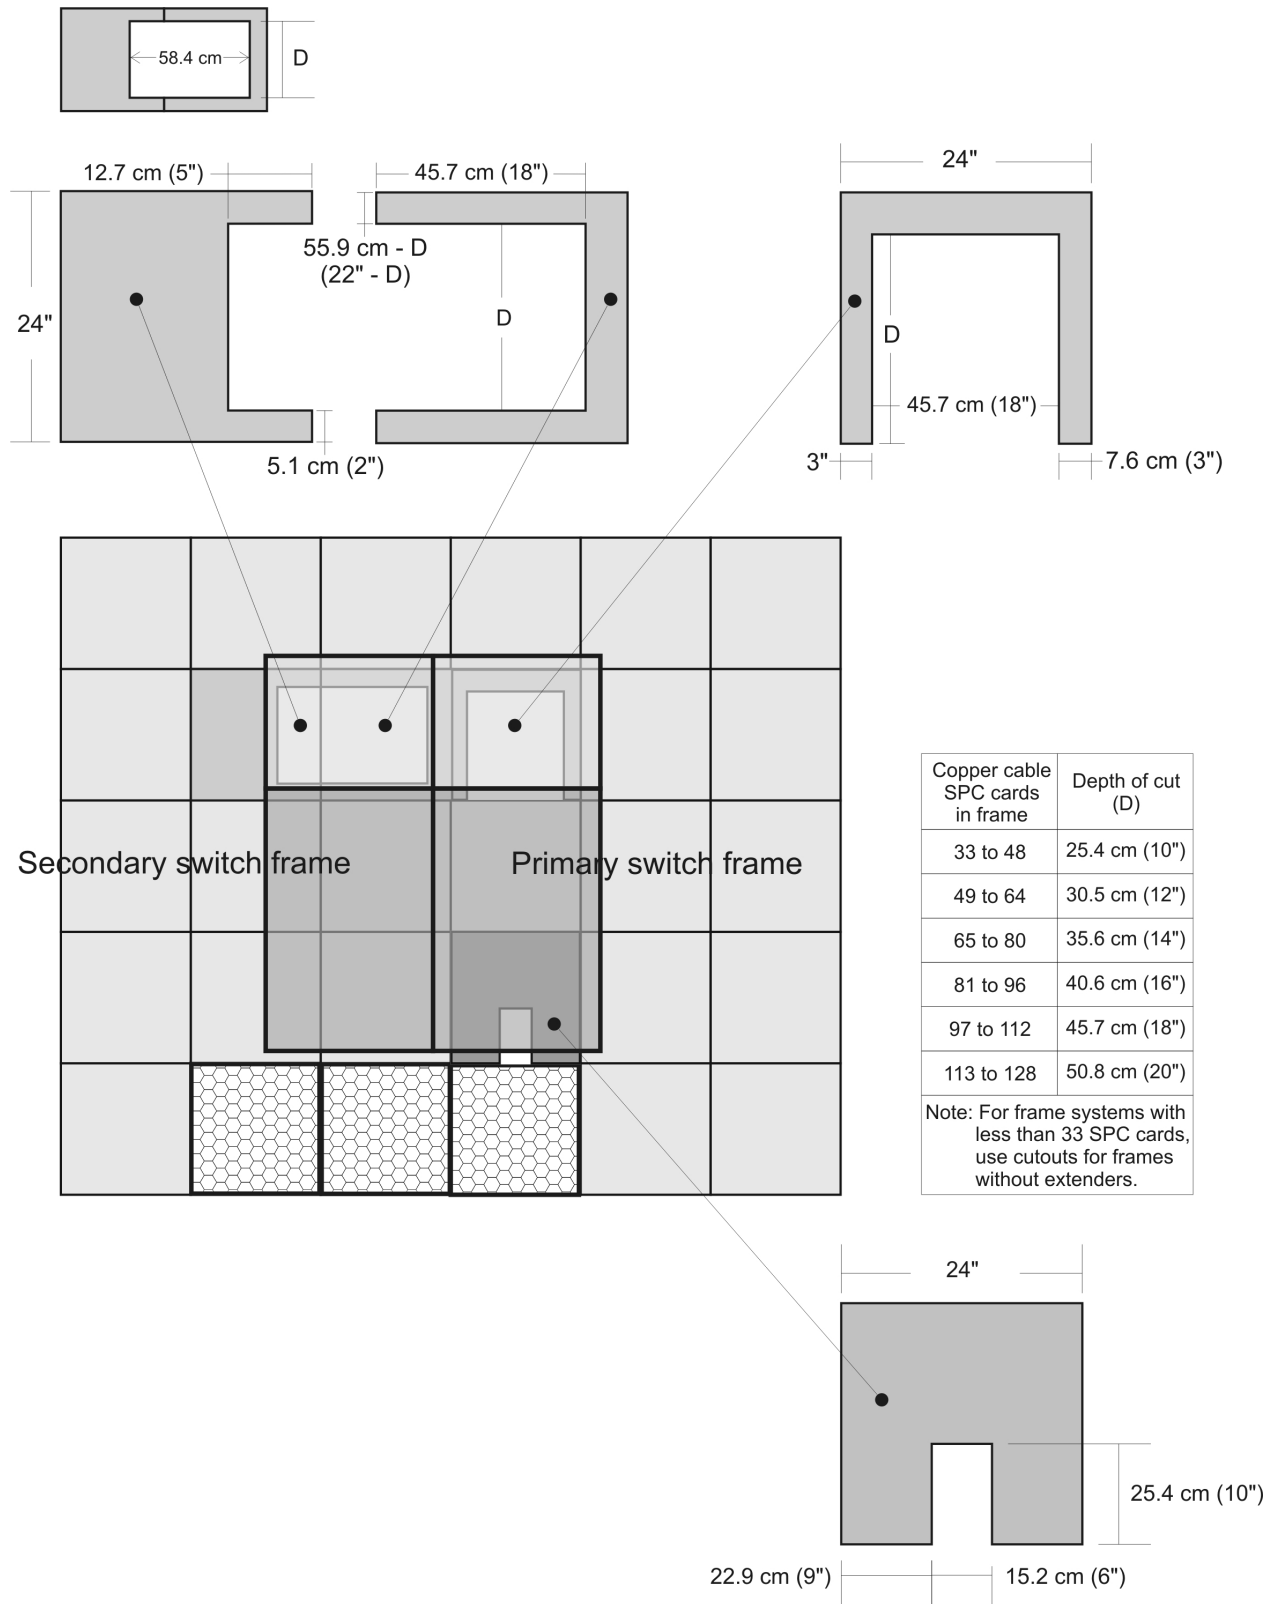

Figure 53. Floor tile cutout patterns for switch-only frame systems with twenty-four inch frame extenders.
Switch-only frames with three or more switches or more than 32 copper switch cables require 24 inch frame extenders. The frame extender attaches to the rear of the frame and accommodates the necessary switch cables. Because the frame extender covers the entire tile behind the frame, you have the option of leaving that tile out or cutting the tile to match your cable requirements as shown in Figure 53 on page 303.
Figure 53 on page 303 shows the dimensions and configuration of the recommended switch cable cutouts. You may vary the actual cutouts as required to meet your installation requirements. In addition to the recommended dimensions, dual frame switch-only systems have these additional recommendations:
- Set the primary frame and the secondary frame approximately 50 mm (2 inches) back from the edge of the perforated tiles as shown in Figure 53 on page 303.